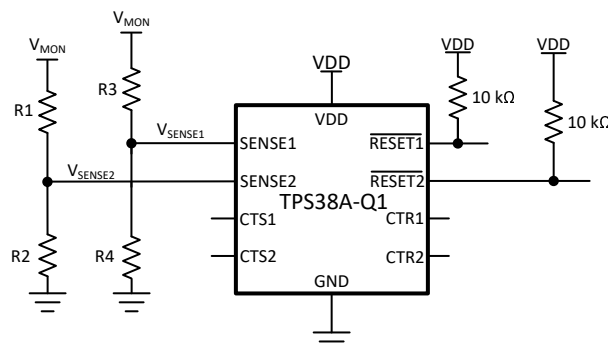

Figure 8-10. Adjustable Voltage Threshold with External Resistor Dividers
For example, consider a 12 V rail being monitored V_{MON} for undervoltage (UV) using channel 1 of the TPS38A010122DSKRQ1 variant. Using Equation 7 and shown in Figure 8-10, R_1 is the top resistor of the resistor divider that is between V_{MON} and V_{SENSE2} , R_2 is the bottom resistor that is between V_{SENSE2} and GND, V_{MON} is the voltage rail that is being monitored and V_{SENSE2} is the input threshold voltage. The monitored UV threshold, denoted as V_{MON-} , where the device will assert a reset signal occurs when $V_{SENSE2} = V_{IT-(UV)}$ or, for this example, $V_{MON-} = 10.8V$ which is 90% from 12 V. Using Equation 7 and assuming $R_2 = 10k\Omega$, R_1 can be calculated shown in Equation 8 where I_{R1} is represented in Equation 9: